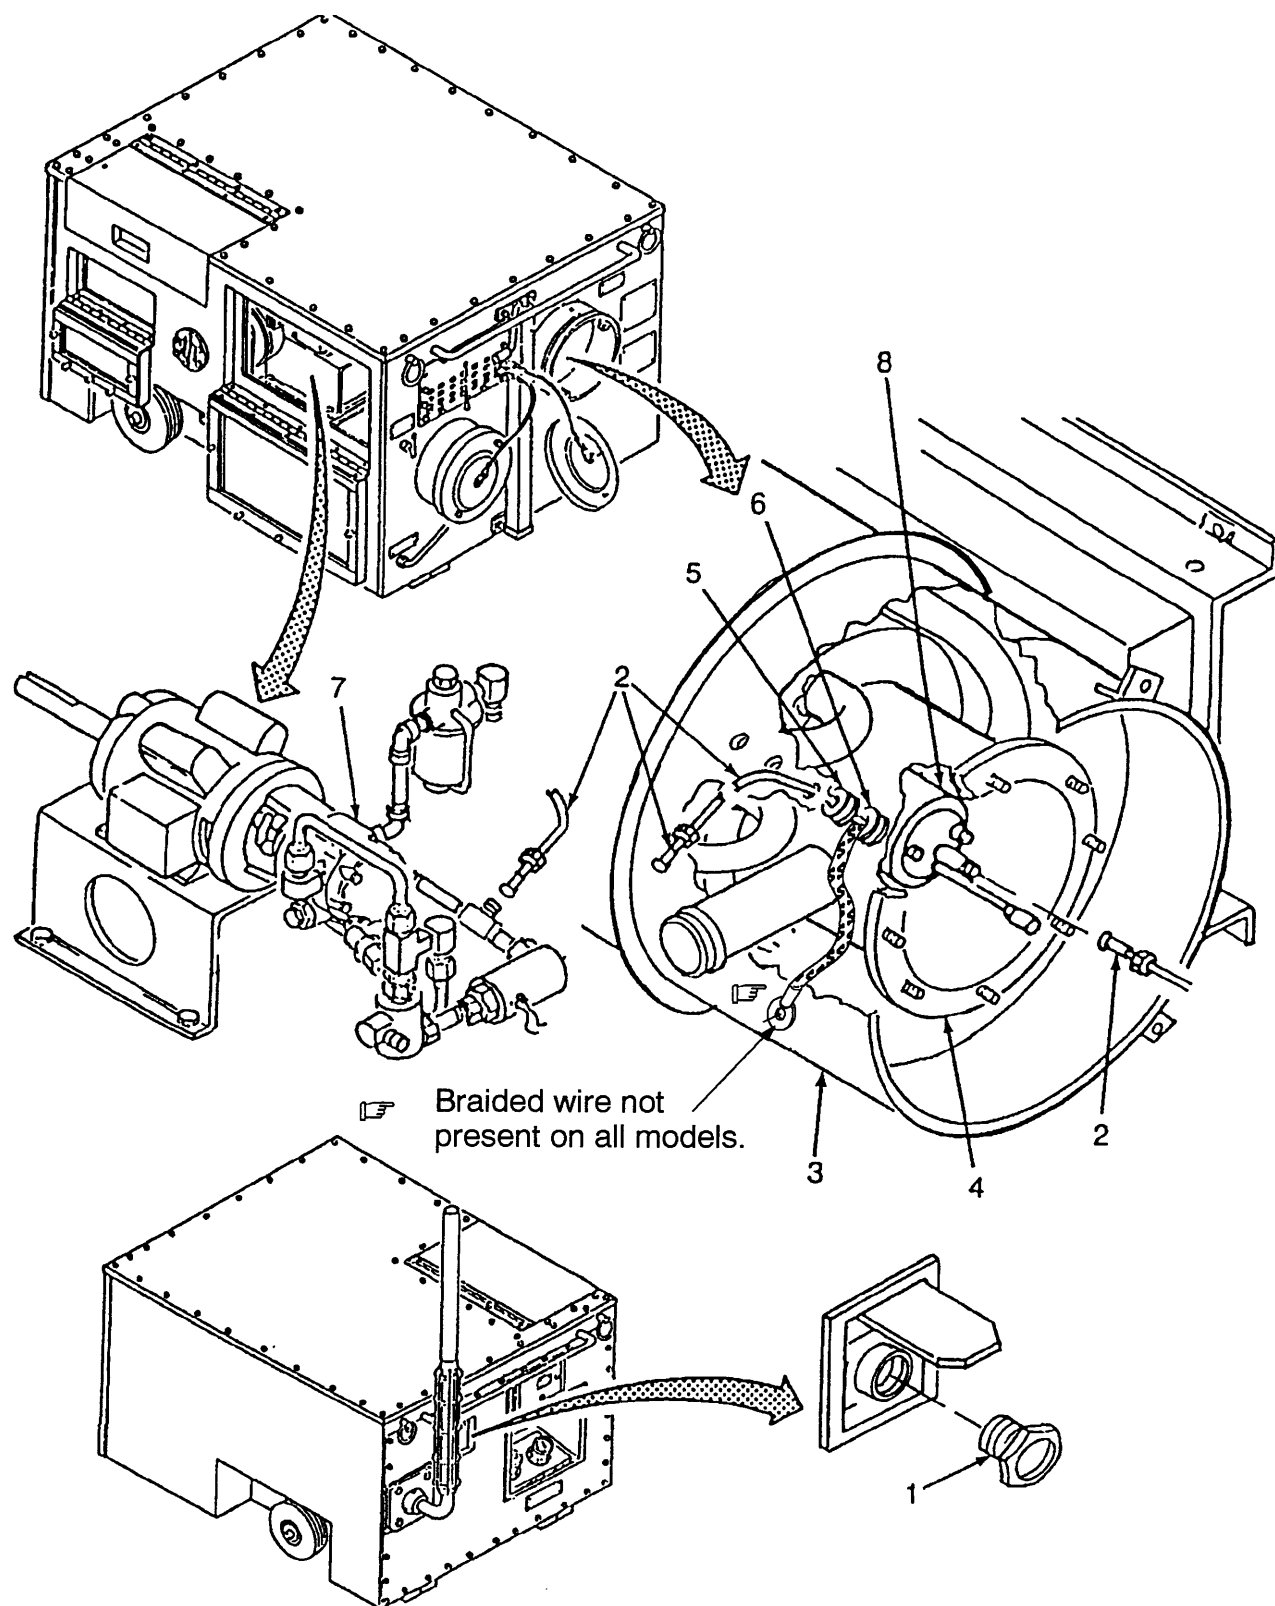

Figure 4-64. Fuel Line and Sight Glass Installation
*Fuel line and Sight Glass* (Refer to Figure 4-64)
- (1) Apply anti-seize compound (Item 3, App E) to sight glass (1) and install sight glass.